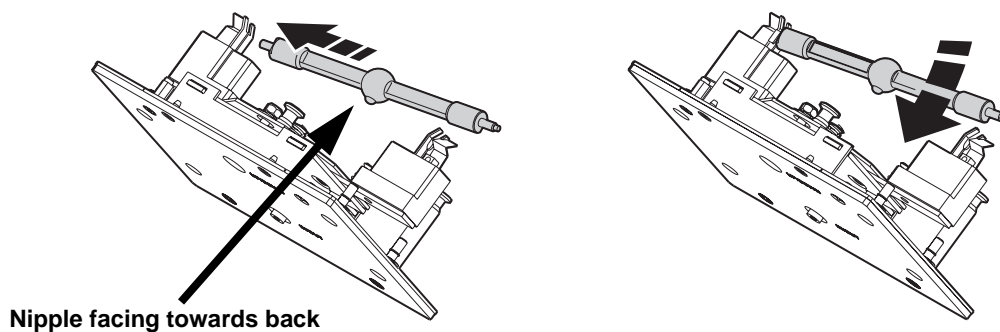

Figure 4: Lamp insertion
4. With the nipple on the replacement lamp facing towards the back as shown in Figure 4, insert the left pin into the socket. Push down on the right-hand spring and snap the pin into place.